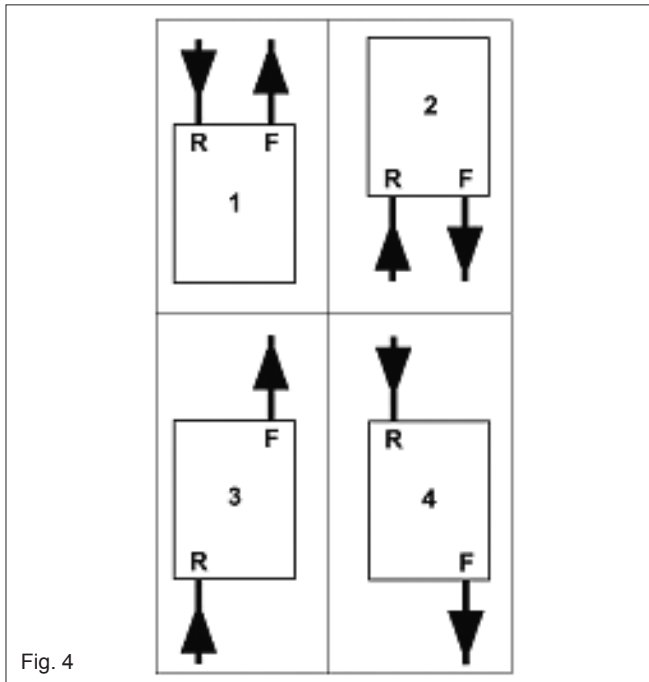

Fig. 4
and discoloration that may occur to building products located nearby. The terminal must not be located in a place where it is likely to cause a nuisance (see fig. 4).
3.11 APPLIANCE PIPEWORK CONFIGURATION (fig.4)